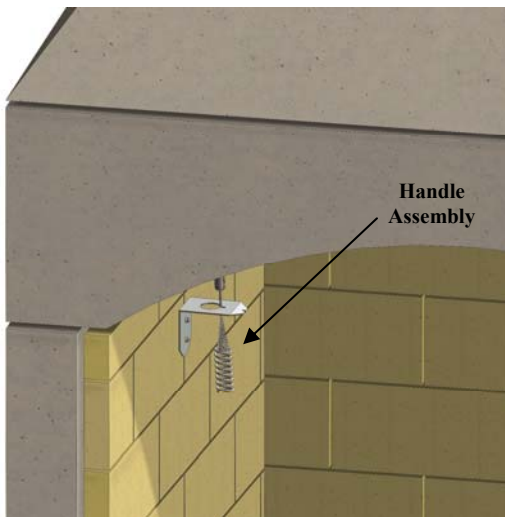

Figure 30. Bracket and Handle Assembly
D. Insert the pull cable through the bracket and adjust the length per damper manufacturer's instructions. Attach handle assembly to the bracket and check damper for proper operation. See Figure 30.